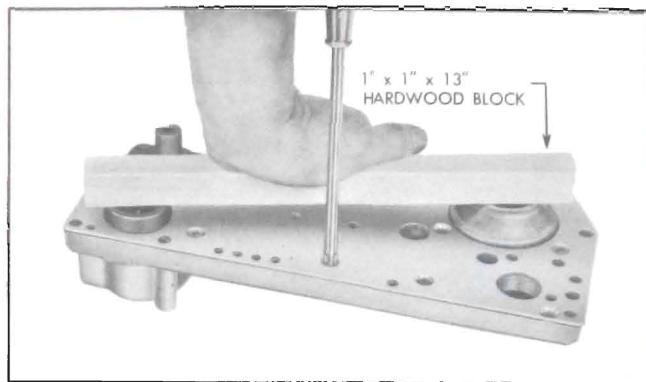

Figure 5-74—Removing Servo Body Spacer Plate
1. Remove servo body spacer plate attaching screw at reverse servo which is in line with the low servo then place a 1" x 1" x 13" wooden block across the low and reverse servo spring seats. See Figure 5-74.